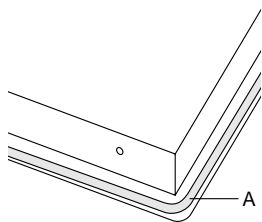

Fig. 4: Sealing strip
2. Remove the protective foil from the sealing strip (A) and apply the strip as far out as possible on the underside of the glass (see fig. 4).